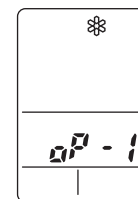

Fig. 59b
- d) ✱ appears and “oP-1” blinks in the remote controller clock display area. (Fig. 59b)